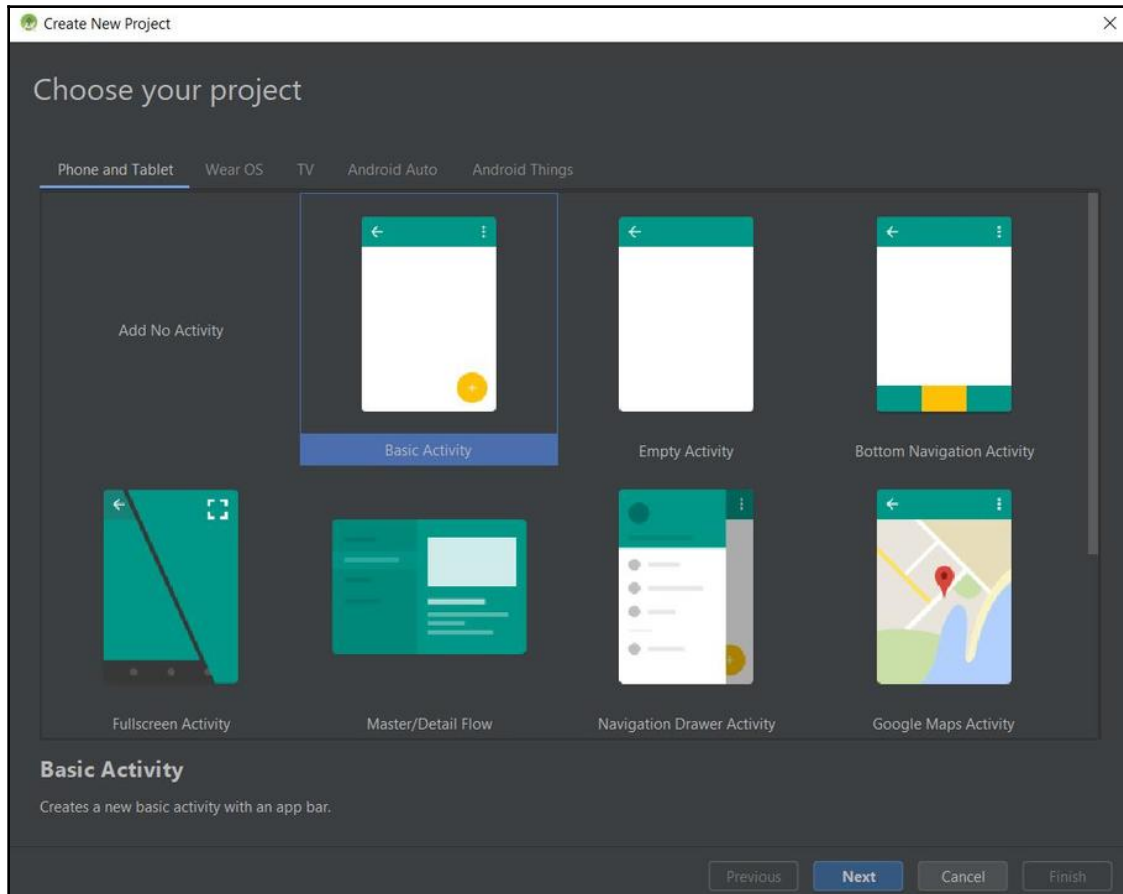

Figure 9.3: Selecting project template for Android
1. Select **Basic Activity** for the project template, as shown in *Figure 9.3*. Then, click on the **Next** button: